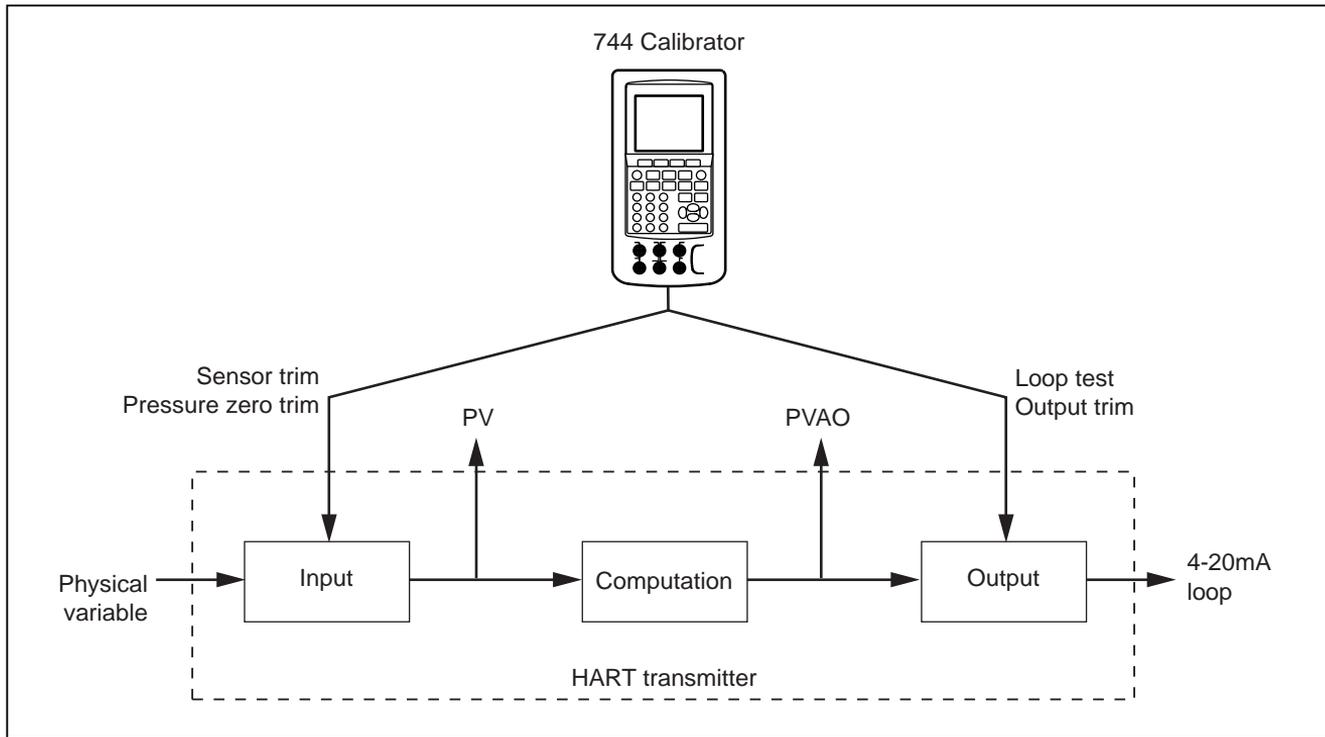

Figure 3. Block Diagram of a HART Transmitter
An analog transmitter has one stage of electrical conversion from a measured physical parameter to a 4-20 mA current loop output. A HART transmitter has the three stages shown in Figure 3.
3. You are presented with a set of choices for analog mode. Use the **UP** and **DOWN** keys to select one of the measure/source choices. This is where you select measure mA (analog output), or measure PV, which does not involve the Output stage of the transmitter. See Figure 3.